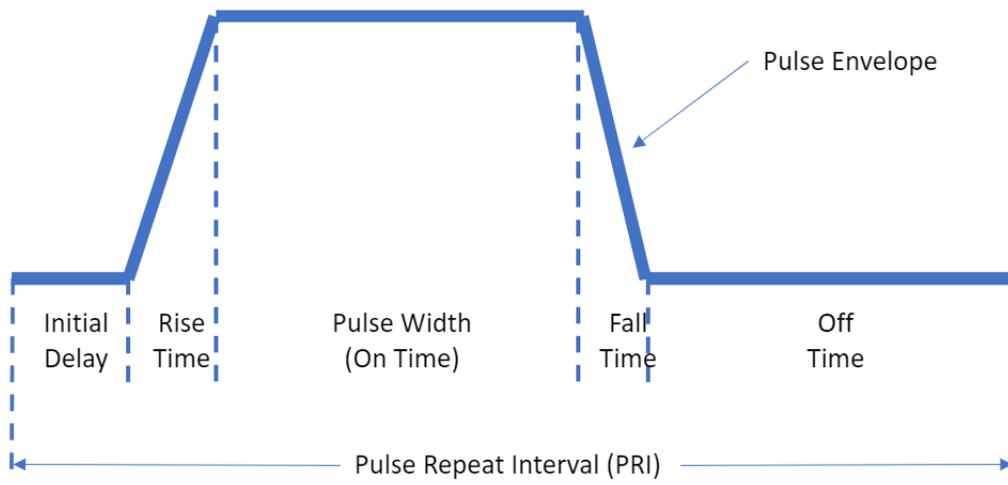

Figure 1 Pulse timing
- **Repeat interval:** a.k.a. PRI (pulse repeat interval) defines the time from the start of a pulse to the start of the following pulse (see Figure 1, below). If Options > Exact PRI is clear, the specified amount of time will be rounded to a integer number of samples. With Options > Exact PRI selected, the pulse will be repeated as many times as necessary to get an exact PRI timing. If PRI is set to zero, the PRI is set to rise-time + width + fall-time. This is useful, for example, for FMCW signals.
- **Pulse width:** Defines the duration of the pulse(s) excluding the rise and fall time (see Figure 1, below). Multiple values can be specified (separated by space or comma) to generate a sequence of pulses with different pulse widths.
- **Rise time:** See Figure 1, below. Multiple values can be specified (separated by space or comma) to generate a sequence of pulses with different rise times.
- **Fall time:** See Figure 1, below. Multiple values can be specified (separated by space or comma) to generate a sequence of pulses with different fall times.
- **Initial Delay:** See Figure 1, below. Multiple values can be specified (separated by space or comma) to generate a sequence of pulses with different initial delay times.